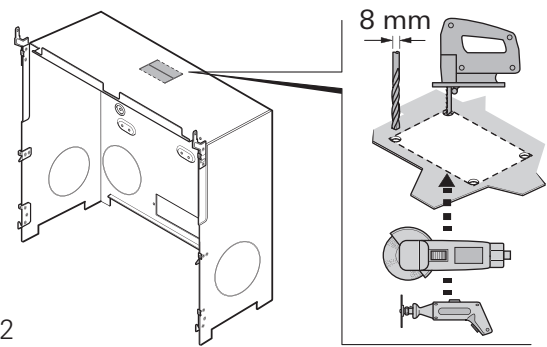

Fig. 12
- ▶ Pre-drill four holes in the corners with a 2.8 mm bit and enlarge with an 8 mm bit (Fig. 12).
- ▶ Saw out the rectangular hole. You can use a jigsaw, a multi-function tool with metal cutting disk or small tin snips (Fig. 12).